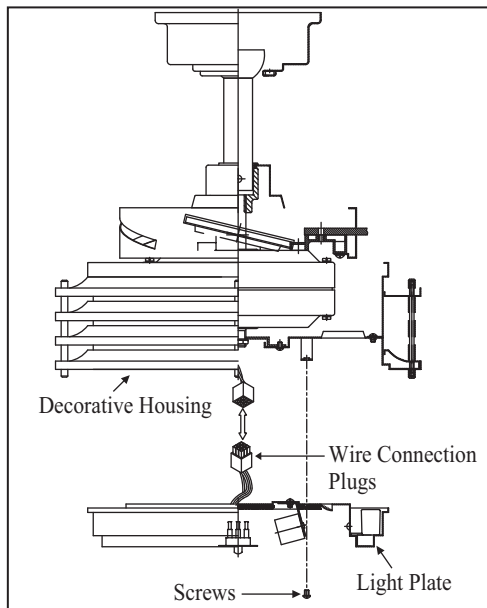

Figure 17
2. While holding the light plate under your fan, snap together the wire connection plugs. (Fig. 17)
3. Place the key holes on the light plate over the 2 screws previously loosened, turn the light plate until it locks in place at the narrow section of the key holes. Secure by tightening the 2 screws previously loosened and the one previously removed. (Fig. 17)